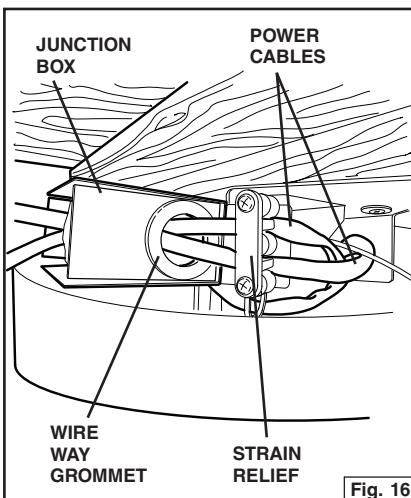

Fig. 16
1. Drop the ceiling canopy. Feed the wires through the center of the ceiling canopy. Wire tie the two power cables to the support arms. Insert the wires onto the strain relief and into the junction box. Secure the wires by tightening the strain relief. Make the power connections Fig. 16.